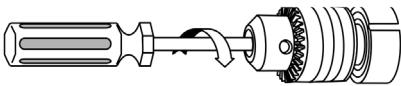
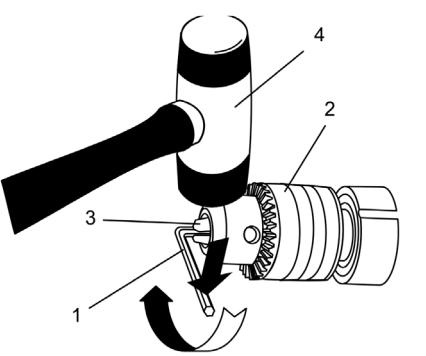

Fig.9
Fig.8
2. Insert a 5/16" (8 mm) or larger hex key (1) into the chuck (2) and tighten the chuck jaws securely (Fig. 8). Make sure each of the chuck jaws (3) is seated on the flat surfaces of the hex key.
3. Tap the hex key sharply with a mallet (4) in a clockwise direction. This action will loosen the screw in the chuck for easy removal.
6. Remove the chuck screw using a #2 screwdriver (Fig. 9).